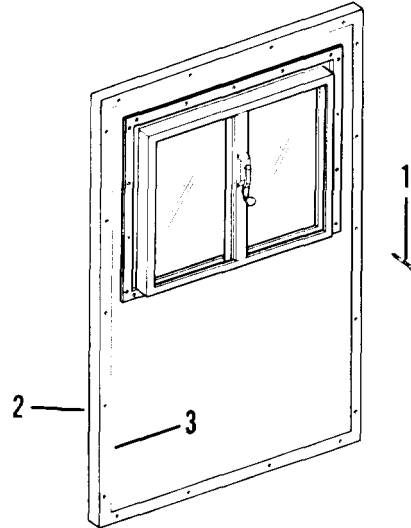

Figure 4-49. Window shim
- (1) Remove eight screws (1, figure 4-49) from shim (2).
- (2) Remove shim (2) and gasket (3).
- (1) Thoroughly clean the shim (2, figure 4-49) with cleaning solvent (PD-680).